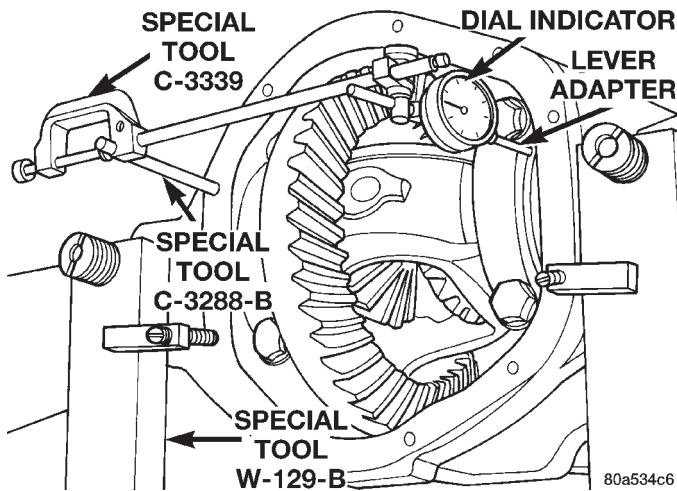

Fig. 25 Install Dial Indicator
(8) Install a Guide Pin C-3288-B at the left side of the differential housing. Attach Dial Indicator C-3339 to guide pin. Load the lever adapter against the opposite side of the housing (Fig. 25) and zero the indicator.
(2) Install a Guide Pin C-3288-B at the left side of the differential housing. Attach Dial Indicator C-3339 to guide pin. Load the lever adapter against the opposite side of the housing (Fig. 25) and zero the indicator.